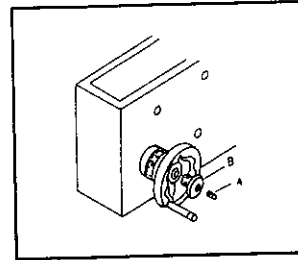

Fig.35
**APRON HANDWHEEL ADJUSTMENT (Fig.35)**